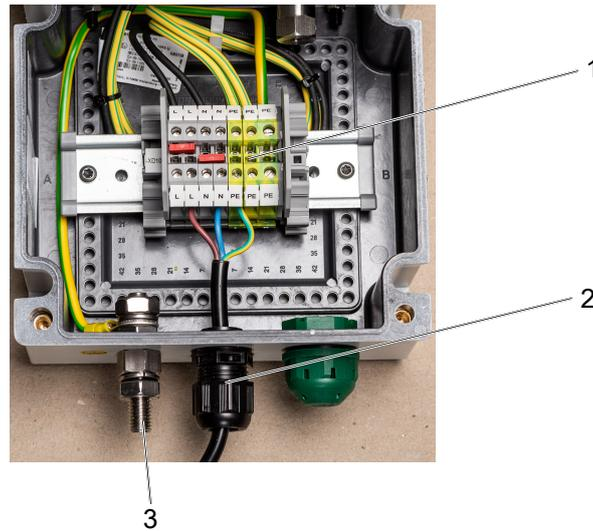

Fig. 9: Internal view of the terminal box
1. Insert the power cable into the terminal box through the cable gland (2).
3. Connect the power cable to the screw terminals on the terminal strip as indicated (⇒ Fig. 9) .